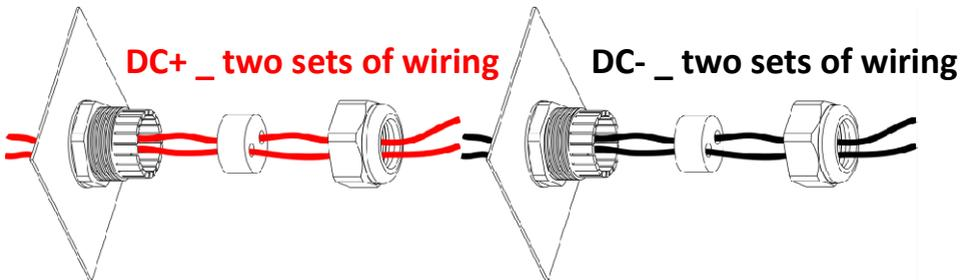

Figure 10
Step 4: Wire the solar module to the DC input with two sets of wiring or four sets of wiring according to the arrangement. Based on the recommended wire diameters, push the wires through the suitable water-proof plugs (4-hole or 2-hole). Do not damage the water-proof plug structure to avoid humidity seeping into the converter interior, as shown in Figures 10 and 11.